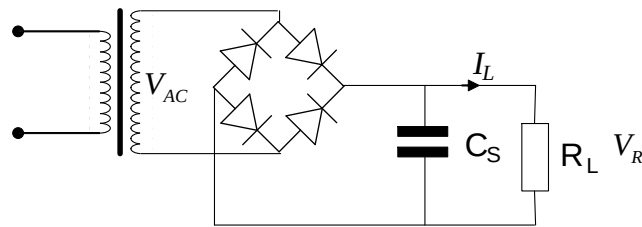

Figure Q2
- Q2. a. For the full-wave diode rectifier circuit shown in Figure Q2, assuming the input voltage is $V_{AC} = 100 \sin(100\pi t)$, the conduction angle of the diode is 30° , the load resistance $R_L = 20 \Omega$, and the capacitor $C_S = 10 \text{ mF}$. We assume that all components are perfect and neglect the voltage drop across the diodes.